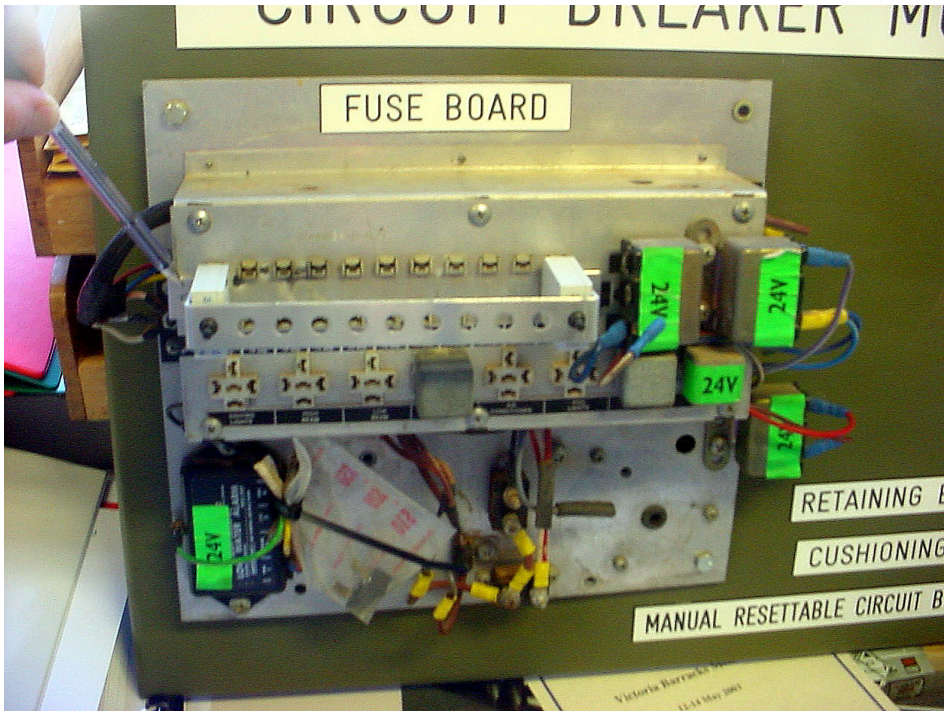

Figure 1 – Pre-marking Aluminium Hold-down Bracket Holes
- b. As per Figure 1, fit the aluminium hold-down bracket (supplied in the kit) over the circuit breakers, and mark the fuse board body ready for drilling.